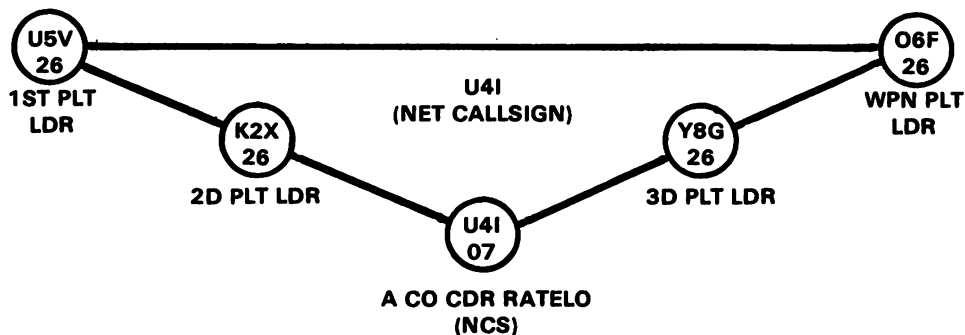

Figure 1.
c. Identify the net structure and determine the answering sequence, and make the appropriate response to the individual stations (figure 1).